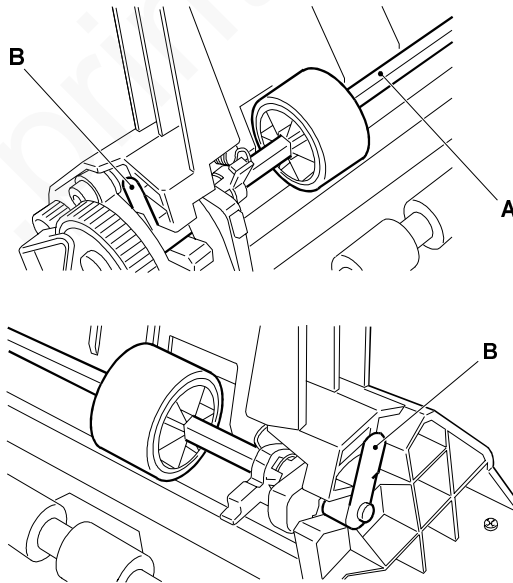

Fig. 7-27
- 4) Release the two bushings **B** and rotate them forward, then extract the shaft of the paper shifter roller **A** forward (Fig. 7-27):